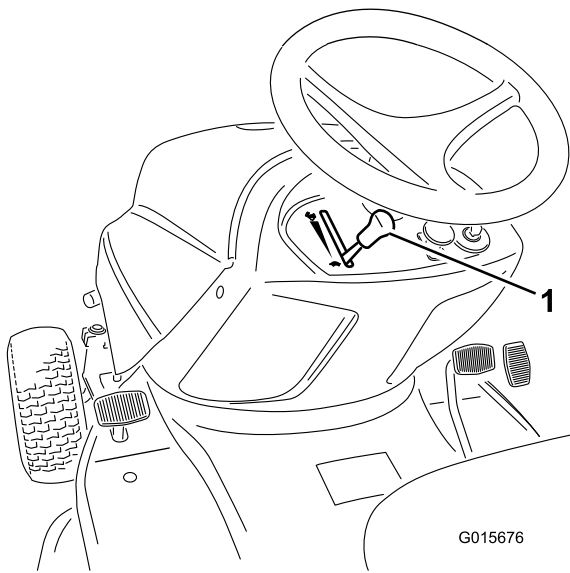

Figure 10
6. When starting a cold engine, shift the throttle control lever to the Choke (all the way up) position (Figure 10).
7. Shift the throttle-control lever to the Slow (turtle) position (Figure 10).
1. Move the throttle control lever to the Slow (turtle) position (Figure 10).